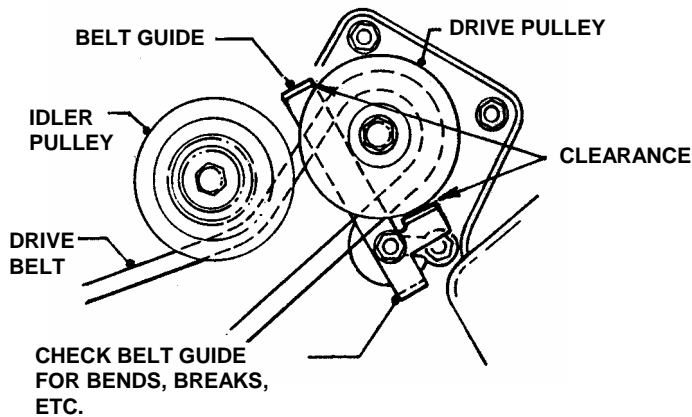

FIGURE 4.6
**IMPORTANT:** Make sure when reinstalling belt guide that it does not touch drive pulley. Belt guide should have an equal amount of clearance on both belt guide fingers. See Figure 4.6.